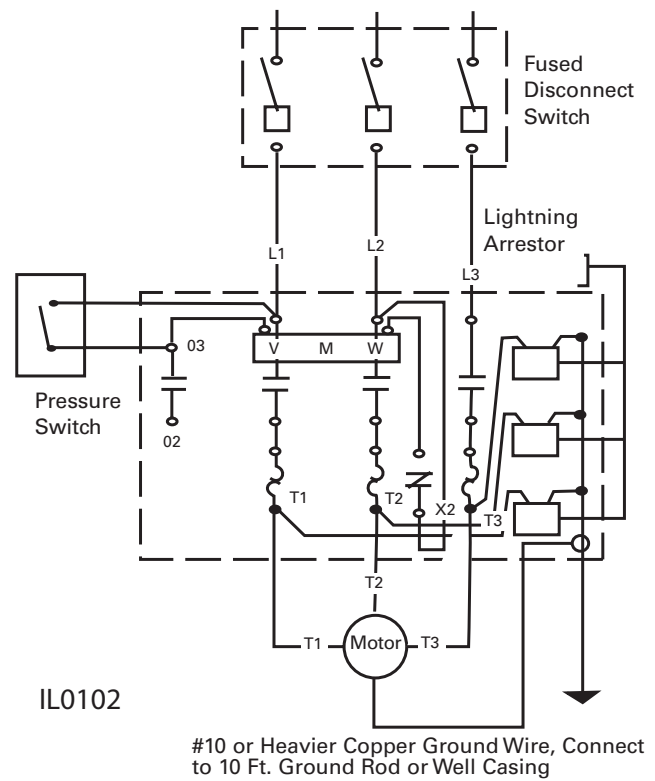

Figure 11 - Magnetic Starter Wiring Diagram Three Phase
- Three phase motors do not have a built in thermal protection. It is recommended that a properly sized magnetic or manual starter (both with properly sized heaters) be used with all three phase motors. Install starters following instructions of the starter manufacturer. See Figure 11 for magnetic starter wiring diagram.